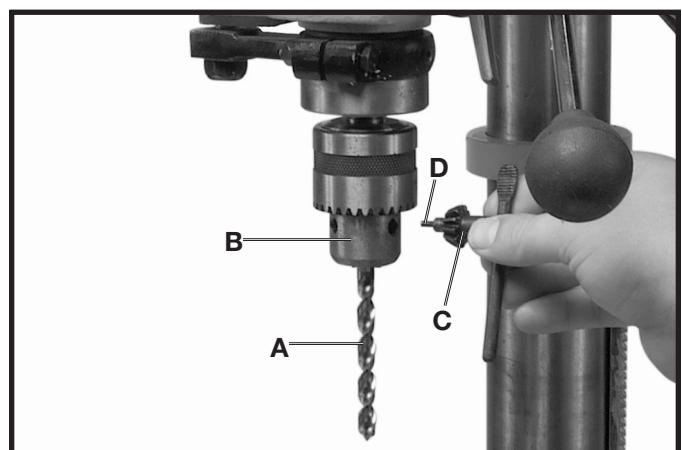

Fig. 33
1. Insert smooth end of drill bit (A) Fig. 33, into chuck (B), as far as it will go, and then back the bit out 1/16", or up to the flutes for small bits.
2. Make certain that the drill bit (A) Fig. 33, is centered in the chuck (B) before tightening the chuck with the key (C).
3. Turn the chuck key (C) Fig. 33, clockwise to tighten and counterclockwise to loosen the chuck jaws.
5. **CAUTION** MAKE SURE chuck key (C) Fig. 33, is removed from chuck before starting drill press. Your chuck key (C) is equipped with a self-ejecting pin (D) which helps minimize the hazard of the key being left in the chuck.